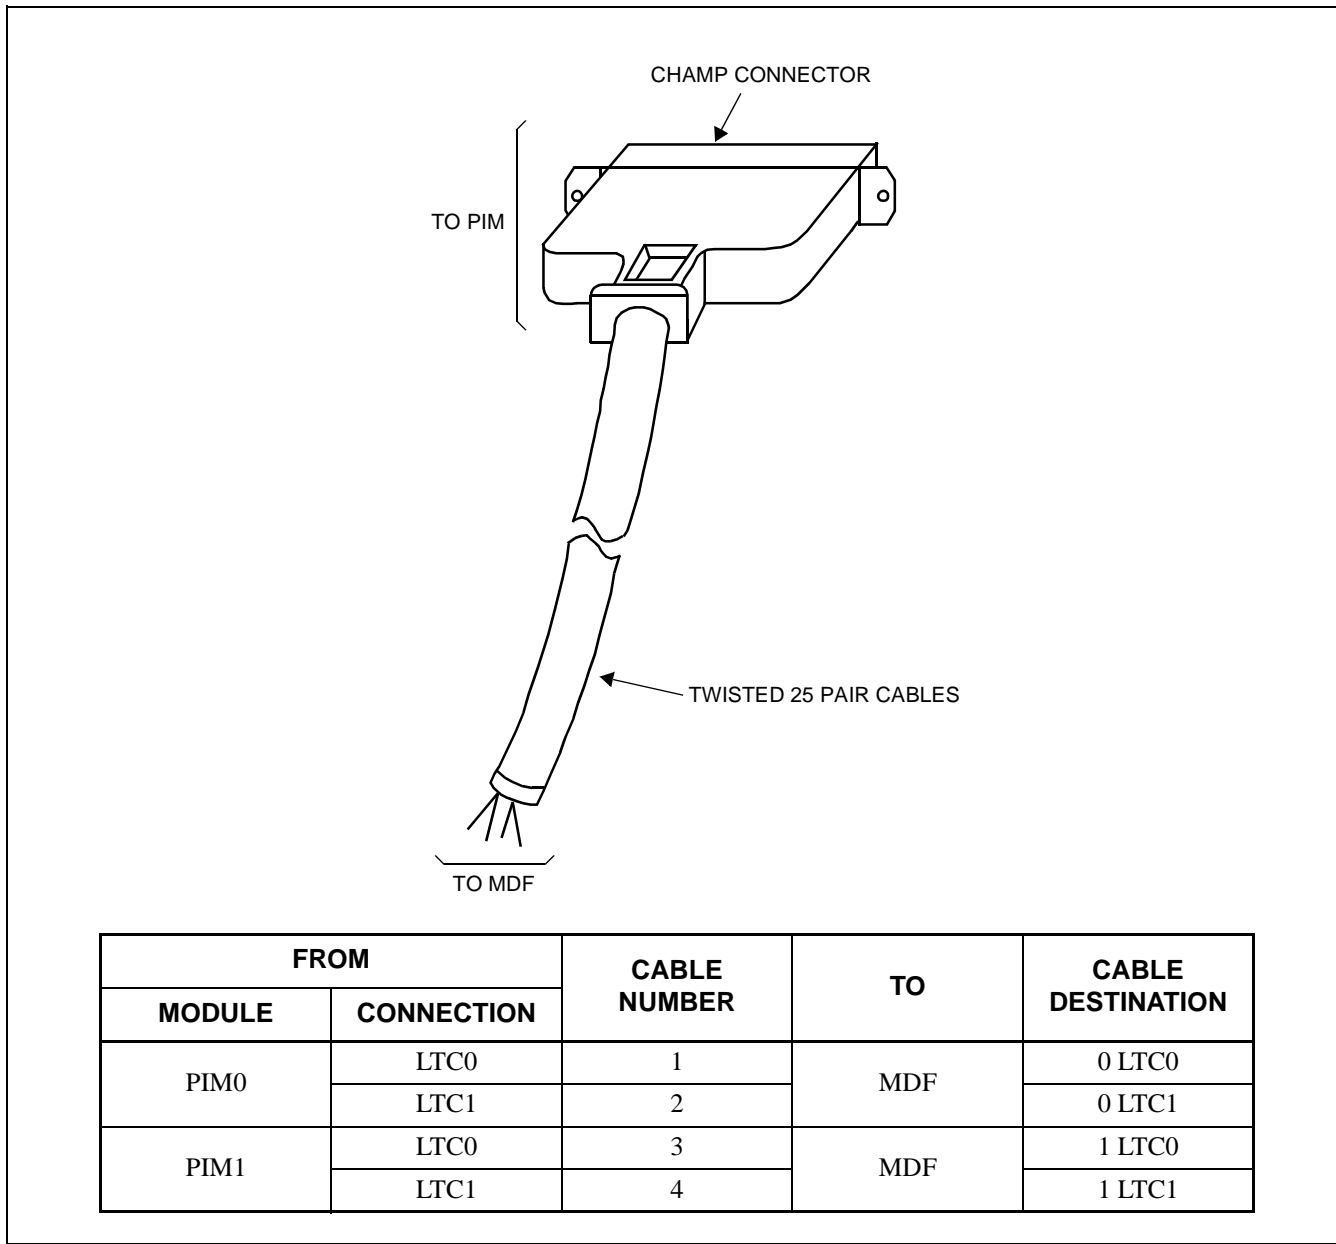

**Figure 005-3 Internal Battery Connection**
- (2) Plug the battery cable connector into the BATT1 connector on the PZ-PW86/PZ-PW112 as shown in Figure 005-3.
- (3) Secure the batteries and battery cable using tie wraps.